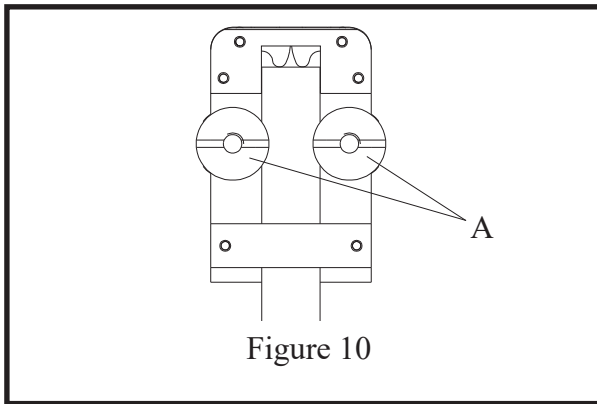

Figure 10
2. To adjust for side-to-side alignment: (Fig. 10)